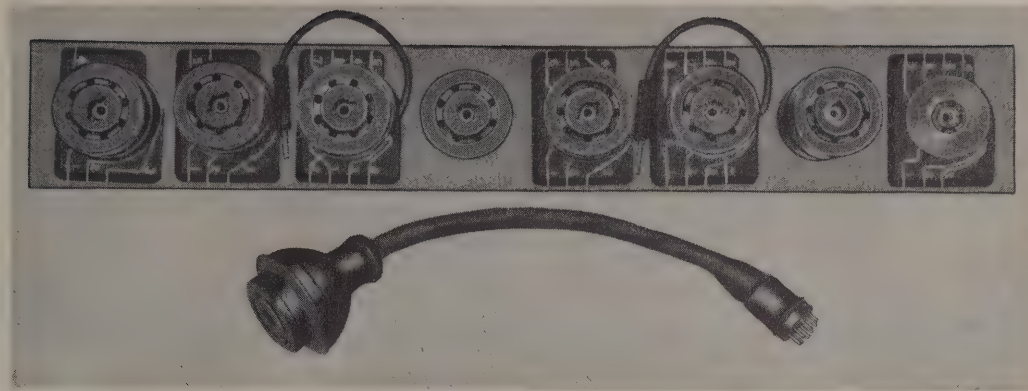

Figure 4
c. Selective Analyzer. Free point measurements of voltage, current and resistance can be made directly at the tube sockets under actual operating conditions by using the SOCKET SELECTOR UNIT of Model 774 built into the panel just to the right of the instrument. Suitable adapters for the plug and SOCKET SELECTOR block are provided for all receiver type tubes along with the necessary jumper cables. Tube base charts covering standard commercial tubes including the octal, loctal, miniature, and acorn groups are given in paragraph 16. In Figure 4, note that both the block and the skirted adapter carry the numbering for the various pins in accordance with the numbering shown in these tube base charts. The numbering on the block applies to 7-prong tubes. When other types of tubes are measured, the skirt of the adapter covers the numbering on the block, and provides the correct numbers applying to the particular tube under test.